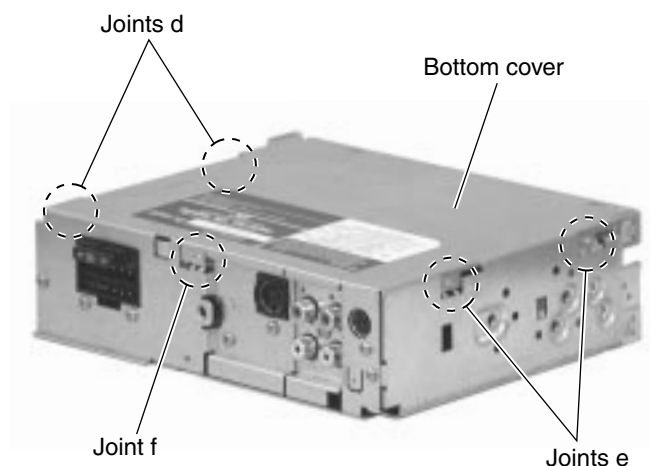

Fig. 6
■ Removing the bottom cover (See Fig.6)